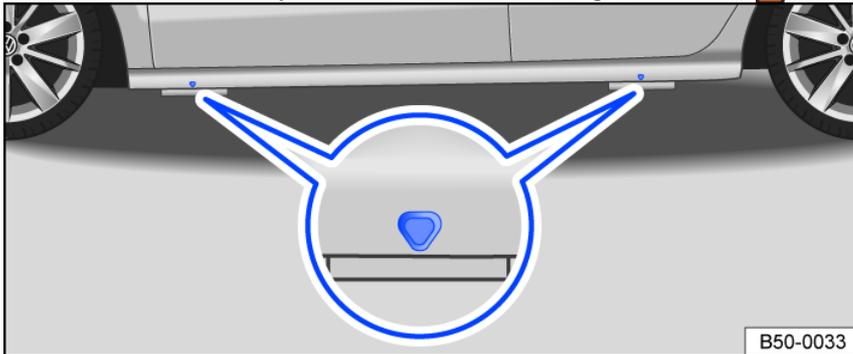

Fig. 211 Mounting points for the vehicle jack.
The vehicle jack must only be positioned at the reinforced areas on the underbody that are located behind the markings on the vehicle body fig. 211. The lift point that is nearest the affected tire should be used → ⚠.
7. Find the vehicle lift point fig. 211 under the vehicle that is closest to the wheel you will be changing.